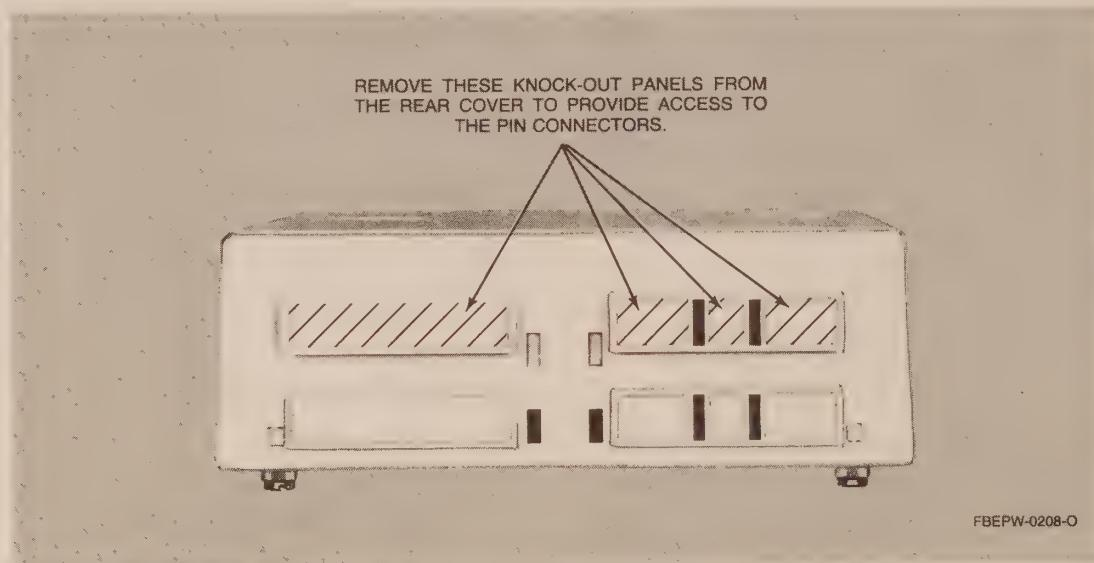

Figure 2. Knockout Panels to be removed
(1) Disconnect all connectors from the alternate control module.
(2) Loosen the two captive screws on the bottom of the housing and remove the rear cover.
(3) Remove the escutcheon, if there is one, from the upper front panel. Separate the *MVS-20* escutcheon from the backing and place it carefully over the upper front panel, making sure the escutcheon holes are aligned with the holes in the panel. Press it firmly into place.
(4) Remove all the knockout panels from the upper portion of the rear housing cover by pushing them out toward the rear of the cover. (See Figure 2.)
(1) Determine whether the *MVS-20* board will be on the upper or lower level of the housing assembly, and remove the corresponding row of knockouts from the rear housing cover (Figure 2). Remove the panel by pushing it out toward the rear of the cover. If possible, install *MVS-20* in the upper slot, where it is easy to operate.